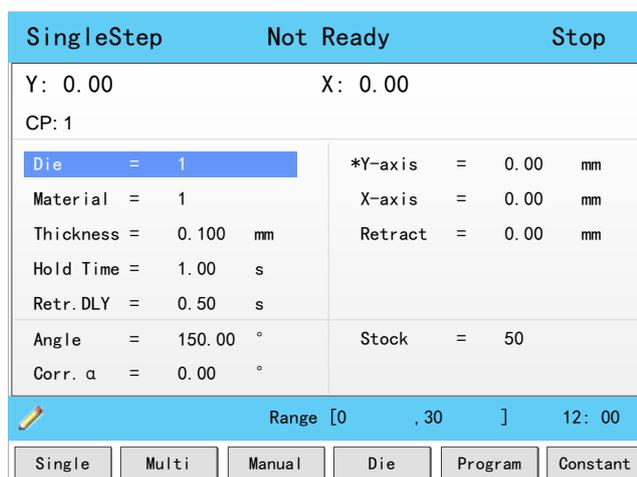

Figure 3-3 The initial page
- Step 1** Power up the device and wait for a while, the screen can display the initial page (Single-Step) automatically, as shown in Figure 3-3.